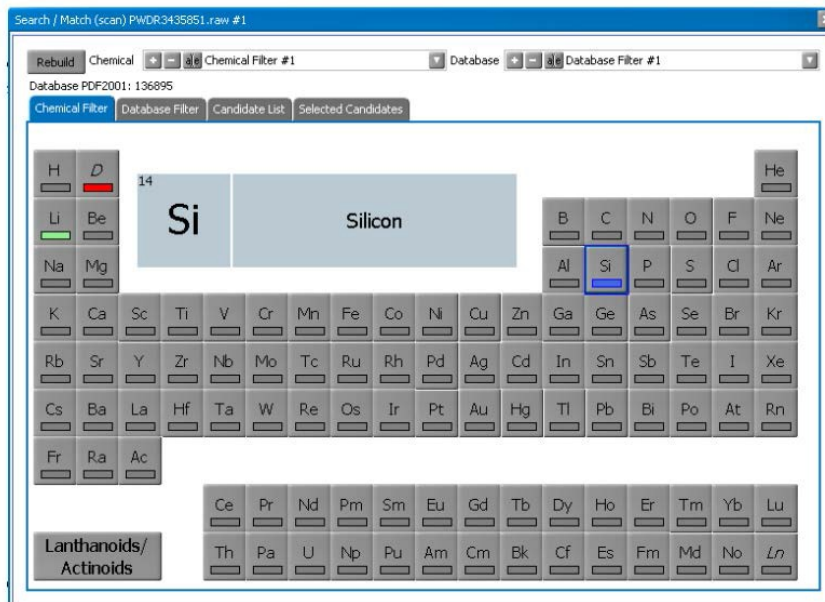

Figure 6. Chemical Filter Tab.
2. Select desired search parameters (see suggestions below; *Figures 6, 7, 8*).
A chemical filter can be set for any element in the periodic table (*Figure 6*).